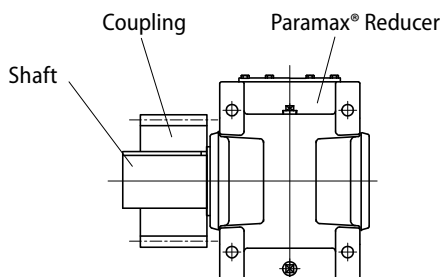

Fig. 9
- Position the sprocket and gear as close to Paramax® reducer as possible so the load point will be close to the reducer's vertical centerline (Fig. 9).